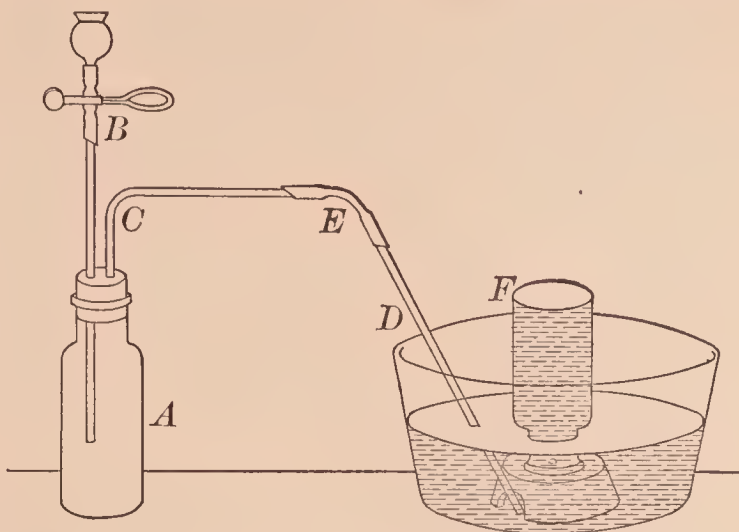
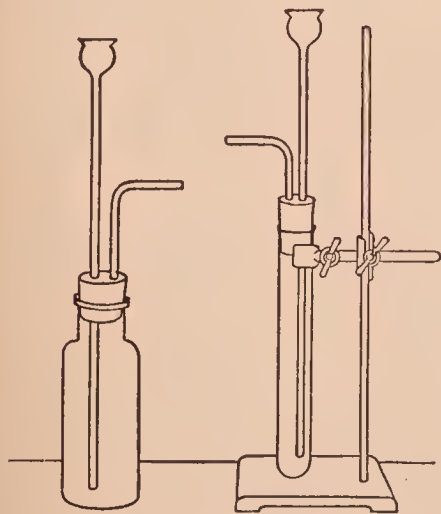
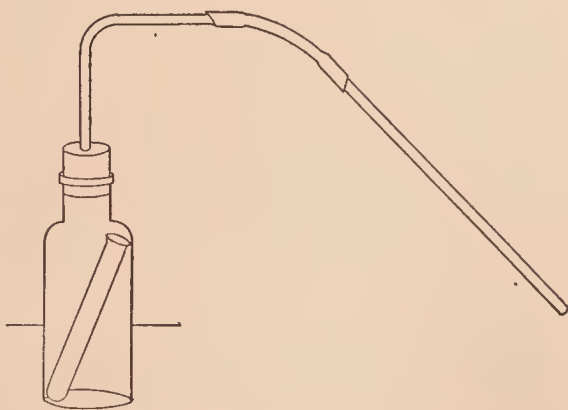

FIG. 13. — Apparatus for preparing carbon dioxide
FIG. 14. — Simple apparatus for preparing carbon dioxide
FIG. 18. — Simple fire extinguisher
**APPARATUS.** — As in Fig. 13. *A* is a 250 cc. bottle provided with a two-hole stopper, through which passes the dropping tube *B* and the right-angle bend *C*; the tube *D* (15 cm. or 6 in.) is attached to the bent tube by the rubber tube *E*.
Instead of the apparatus shown in Fig. 13, one of the simple forms shown in Fig. 14 may be used; in these the lower end of the thistle tube must be beneath the acid.
as in Fig. 13. Fill the pneumatic trough with water, fill a bottle with water, cover with filter paper (Fig. 7), invert, stand it on the support, and remove the paper. Fill three other bottles and have them ready.
**APPARATUS.** — Bottle with one-hole stopper and tubes as in Fig. 18.
Make a simple extinguisher like that shown in Fig. 18. The bottle and tubes are those used (as *A-C-E-D*) in the apparatus shown in Fig. 13. The bottle is filled about two-thirds full with saturated sodium bicarbonate solution. The small tube (inside the bottle) contains dilute sulfuric acid and a piece of lead to hold it down after it is lowered into the solution. Connect the tubes with the stopper and push the stopper well down into the neck of the bottle.